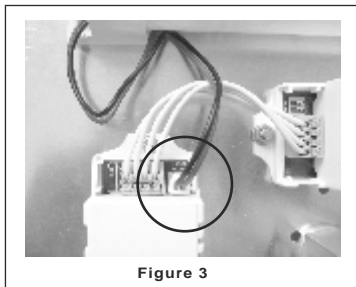

Figure 3
4. Connect the battery's terminal to the appropriate terminal (figure 3).